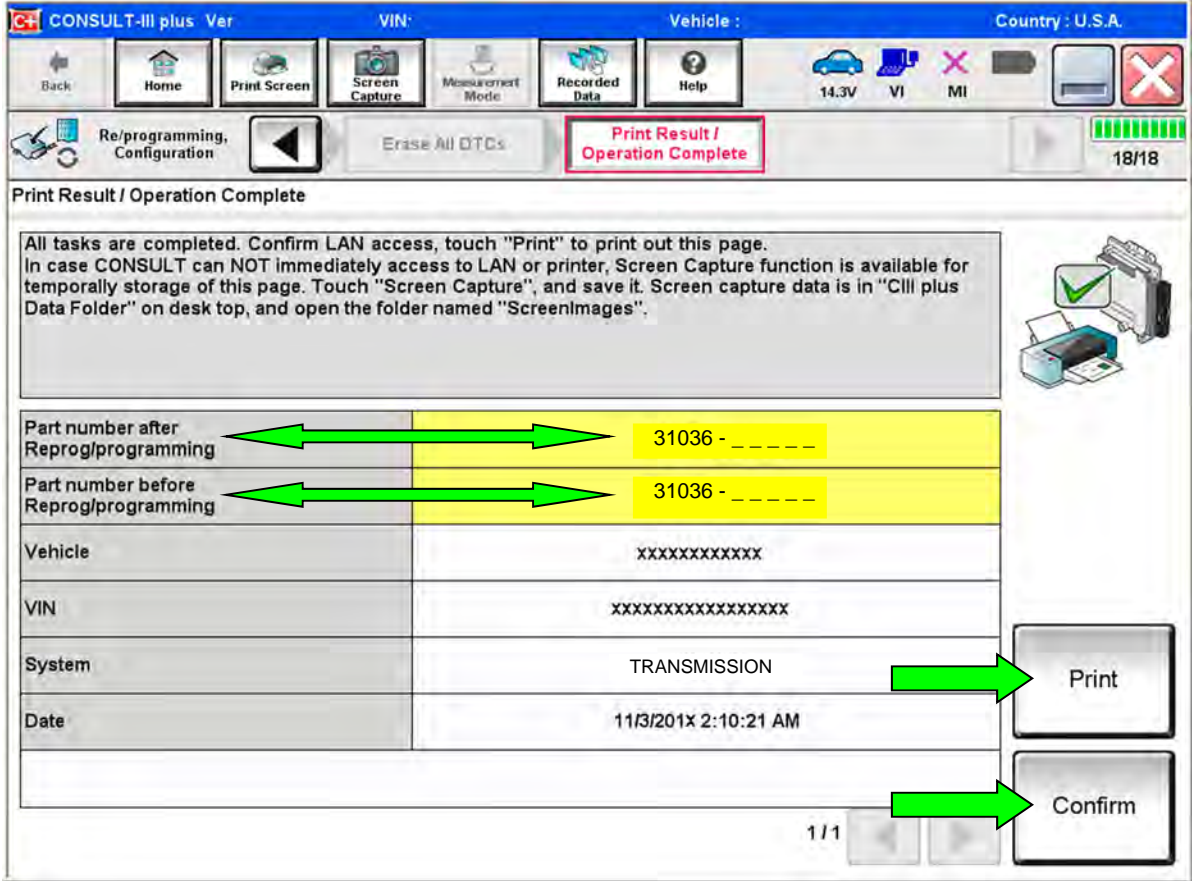

Figure 171
- 150. When the entire reprogramming process is complete, the screen in Figure 171 will display.
- 152. Print a copy of this screen (Figure 171) and attach it to the repair order for warranty documentation.